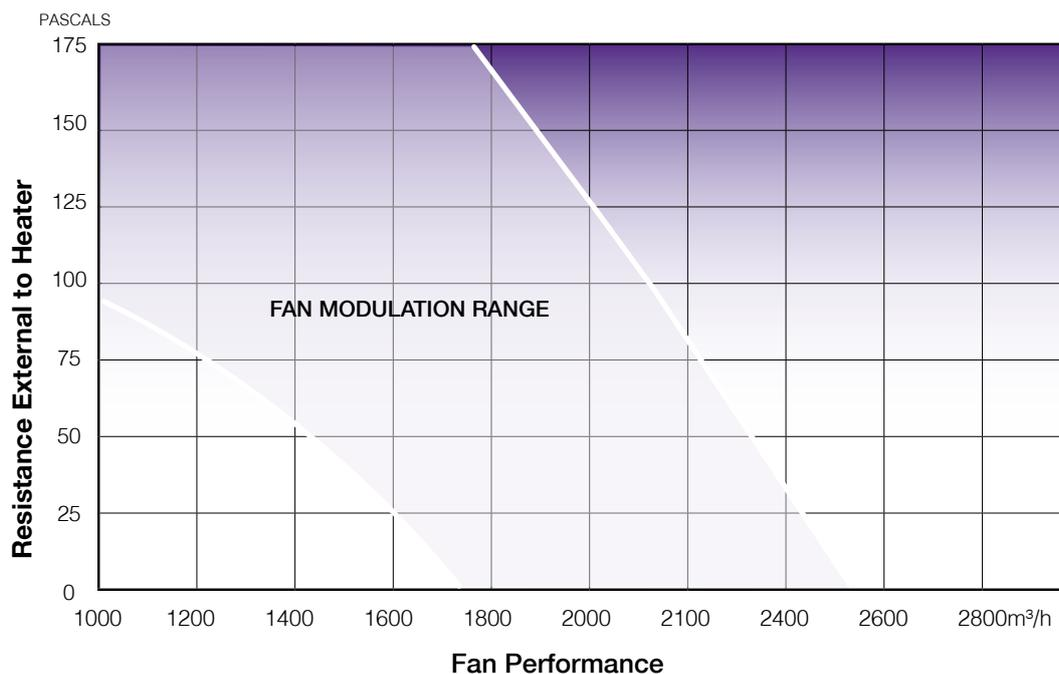

FIGURE 16. C26U FAN PERFORMANCE GRAPH
16.6.2 Once the burner assembly has been removed inspect the inside of the combustion chamber for debris. If the inner insulation is damaged, do NOT try to clean. Replace the heat exchanger. See Figure 16.